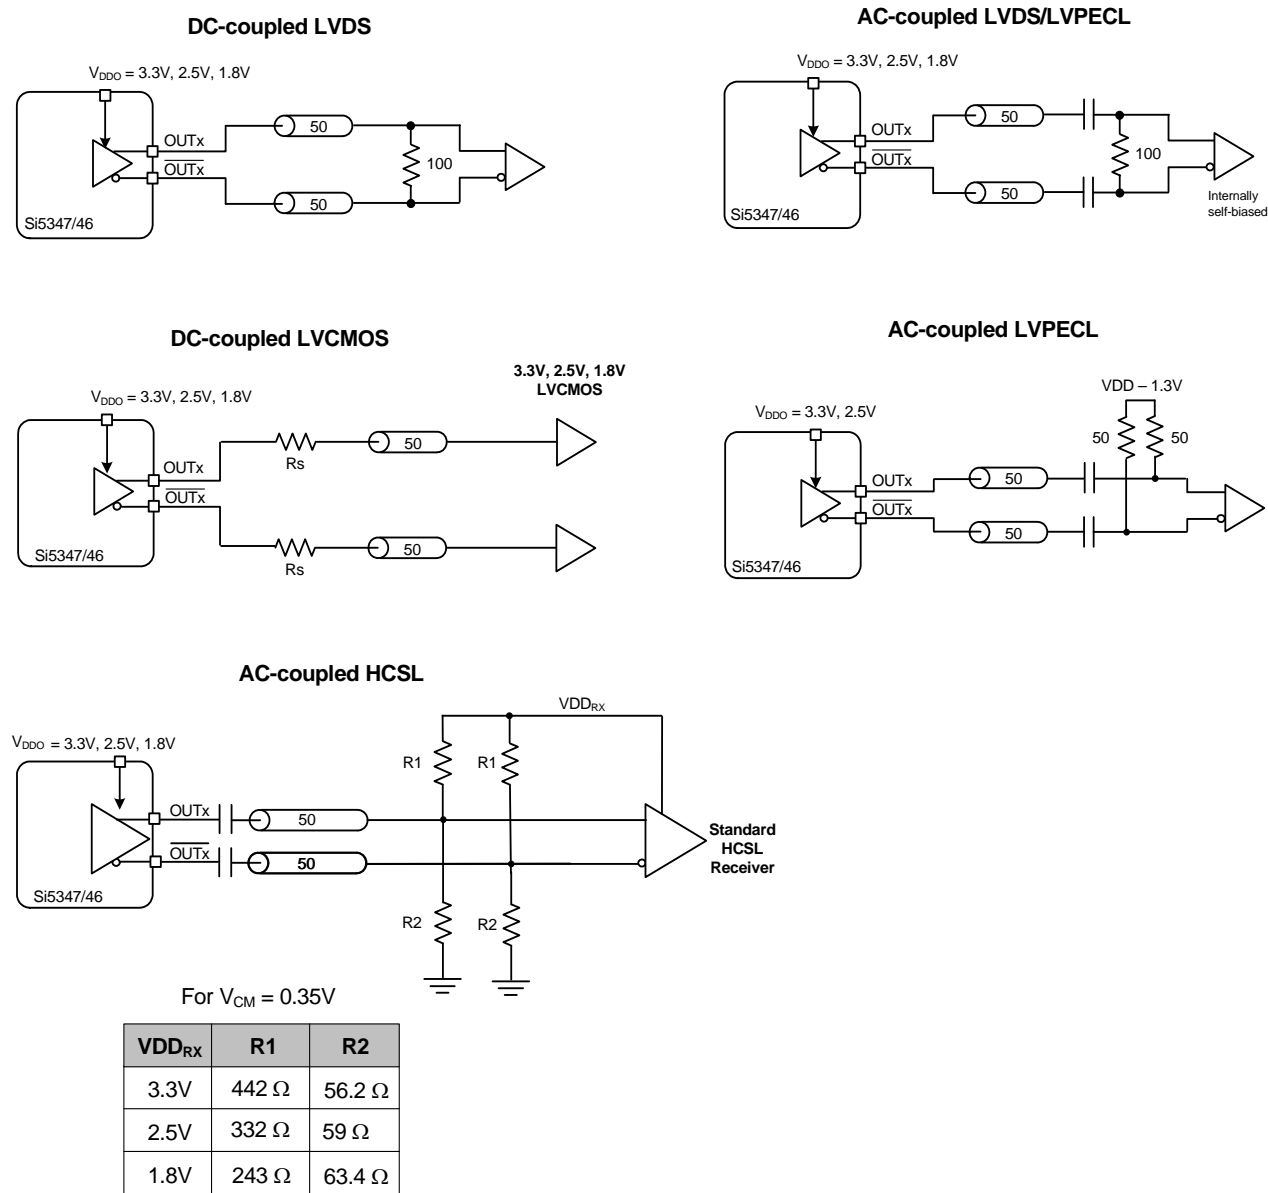

Figure 25. Supported Differential Output Terminations
The differential output drivers support both ac-coupled and dc-coupled terminations as shown in Figure 25.
- **Differential Normal Mode:** When an output driver is configured in normal amplitude mode, its output amplitude is selectable as one of 8 settings ranging from 130 mVpp_{se} to 920 mVpp_{se} in increments of 100 mV. The output impedance in the normal mode is 100 Ω differential. Any of the ac-coupled terminations shown in Figure 25 are supported in this mode.
- **Differential Low Power Mode:** When an output driver is configured in low power mode, its output amplitude is configurable as one of 8 settings ranging from 200 mVpp_{se} to 1600 mVpp_{se} in increments of 200 mV. The output driver is in high impedance mode and supports standard 50 Ω PCB traces. Any of the ac-coupling terminations shown in Figure 25 are supported in this mode.